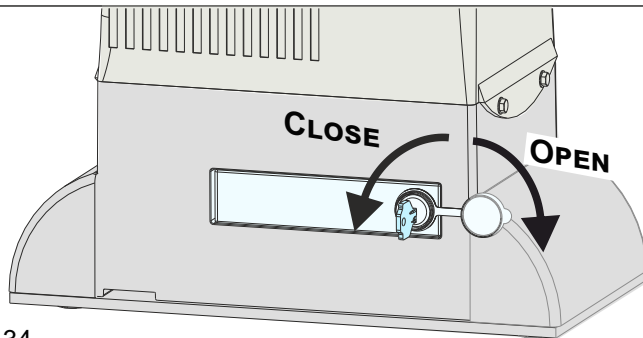

Fig. 34
- Open the lock cover, insert the key and rotate 90° clockwise - Fig. 34